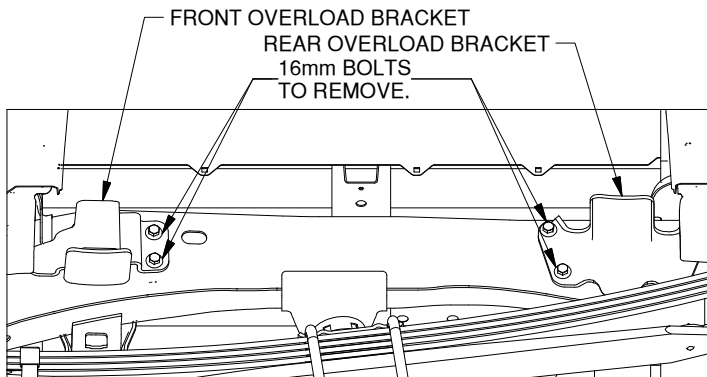

Figure B2: View looking into driver side wheel well.
2. **Check for overload brackets.** Look under the truck and see if there are overload brackets attached to the frame over the leaf suspension, as shown in Figure B2. If your truck does not have overload brackets you may skip to step 4. If your truck does have overload brackets continue to step 3.
3. **Remove overload bracket hardware.** Remove the 16mm bolts indicated in Figure B2. The bolts attaching the rear overload bracket are attached with nuts inside the frame, these will need to be removed as well. Do not remove the overload brackets, only the indicated hardware.